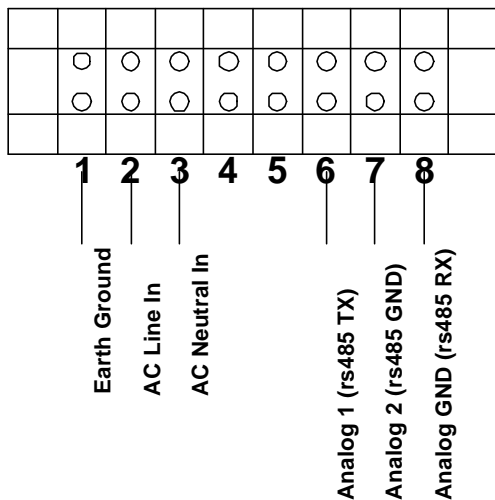

Figure 8.
**TB1 Outputs:** The IR-SNIF-1,2,3 is designed to provide two standard 0-10 volt analog outputs **or** two optional 4-20 mA analog outputs **or** optional rs-485 interface for use with ACC 070 SenTech COMM LINK PC to Refrigerant Monitor Interface, or ACC 065 SenTech Remote Control Panel Interface. Refer to Figure 8 for a diagram of the terminal board.